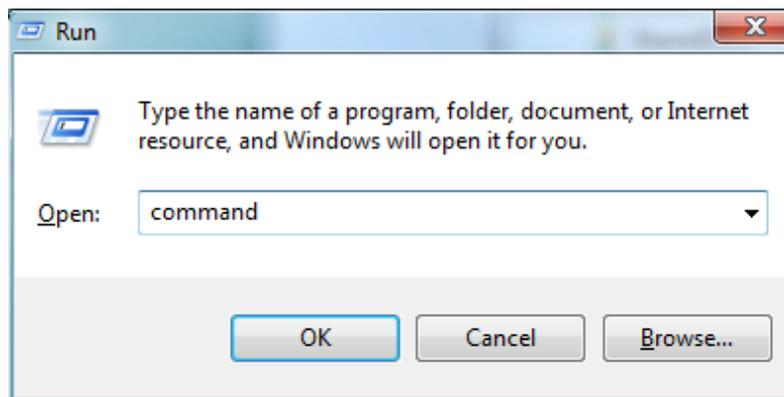

Figure C1. Windows 7 Telnet screen 1
1. Click on the start button, then select "Run". The window shown below in Figure C1 will open. Type "command" in the box and click on the OK button.